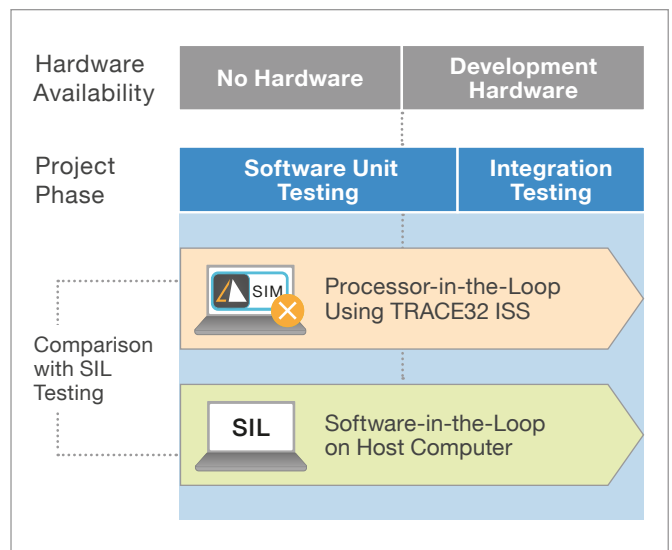

Figure 3: Workflow with Output Comparison from Testing with SIL
- If TRACE32 ISS is used for PIL simulation, confidence in use may be justified by performing the same tests with SIL simulation (see figure 3).